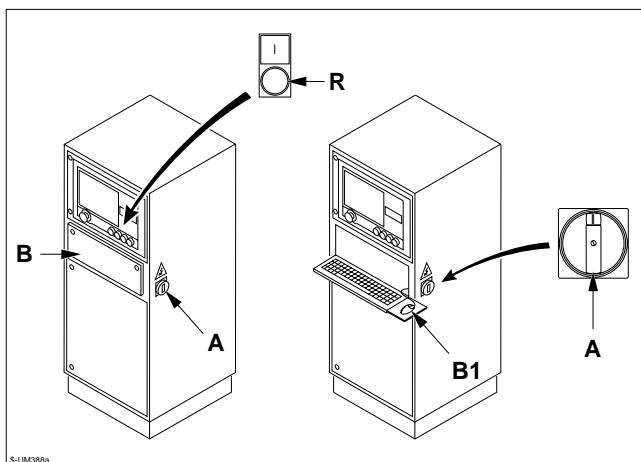

Fig. 4.3
- Using the key supplied, open the keyboard shelf B (fig. 4.3) and pull out the mouse table B1